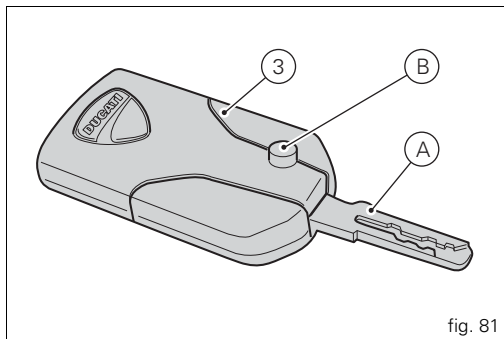

fig. 81
The metal part (A) of the key (3) remains hidden inside its housing, it exits by pressing the button (B, fig. 81).
With the vehicle in Key-On and "engine off", if the presence of the active key (3, fig. 81) is not detected for thirty consecutive seconds, the motorcycle will turn off automatically without any action by the rider.